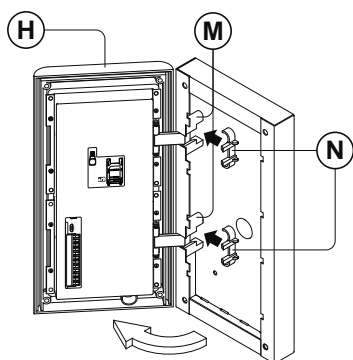

Fig. 43
7. Next open the module support frame **(H)** and clip the hinge locks **(N)** to the hinge mounts **(M)** , following the guide arrows, as shown in **Fig.43**;